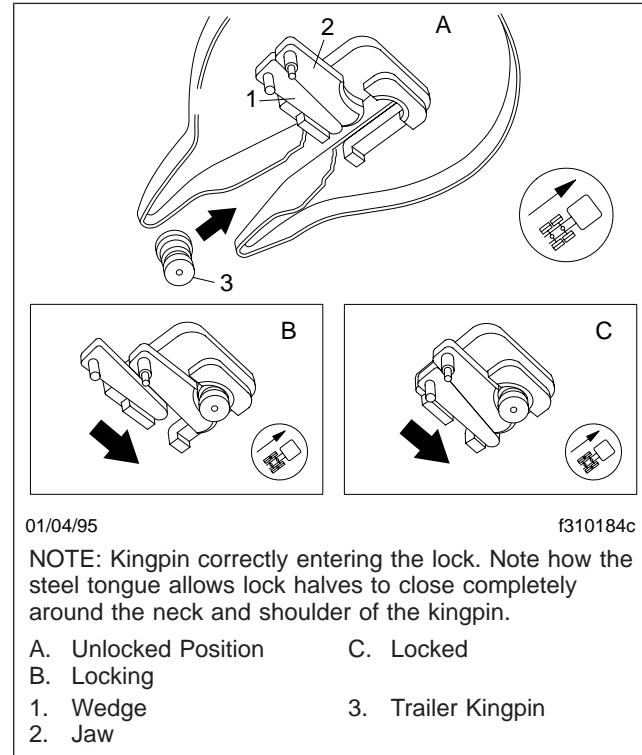

Fig. 11.5, Fontaine Kingpin Lock Mechanism
The Fontaine fifth wheel lock mechanism for the trailer kingpin consists of a spring-loaded jaw and a sliding wedge. See Fig. 11.5. The jaw and wedge each have a pin permanently attached. The pin on the jaw and the pin on the wedge fit into elongated notches in the lock control handle. The notches in the handle control the limit of movement for both the jaw and wedge. The notches are arranged so that the wedge is actuated first during release of the kingpin.
During coupling (**Fig. 11.5**), the motion of the kingpin entering the jaw will actuate the jaw and wedge. The jaw will move behind the kingpin, followed by the wedge. The purpose of the wedge is to reinforce the jaw and take up slack around the pin. Any wear on the jaw is immediately taken up by the wedge so there is no slack in the connection.
3. Position the tractor so that the fifth wheel lock opening is in line (both vertically and horizontally) with the trailer kingpin. The kingpin should be in a position to enter the throat of the locking mechanism, as shown in **Fig. 11.5**. Adjust the trailer landing gear to give enough alignment height for positive kingpin lockup.